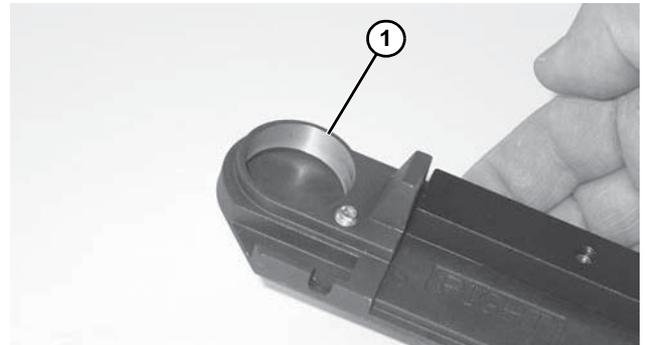

Figure 79
1. Inspect the headplates bearing seating surface (**Figure 79, item 1**). If they are worn or damaged, replace. See “Service Parts” on page 36.